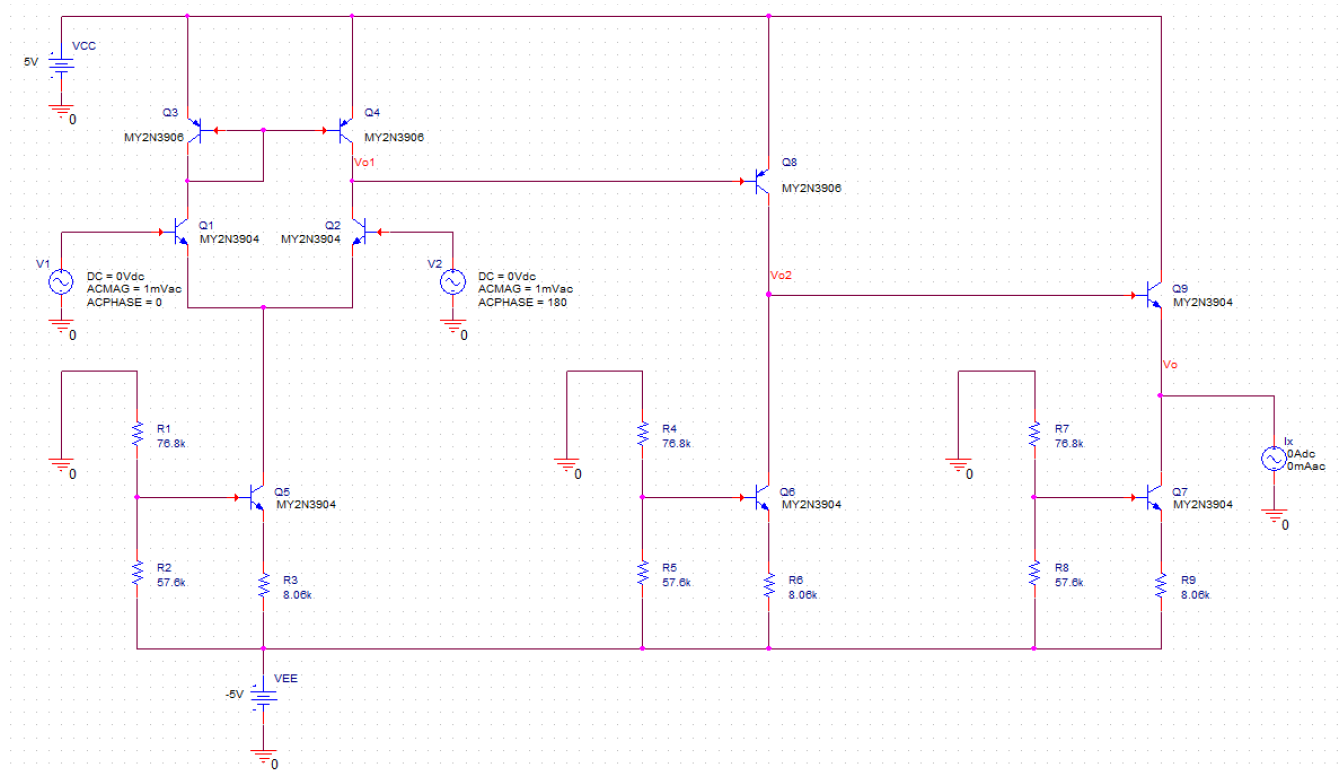

Fig. 1 Schematic diagram of the directly coupled (DC), multi-stage operational amplifier
- 1.1 In PSpice, construct the Op-Amp, as shown in Fig. 1, using the common-emitter (CE) amplifier from Lab 2, the common-collector (CC) amplifier, and the differential amplifier with a current mirror load from Lab 3. Here, I_x is a current test source used to characterize the output resistance of the Op-Amp.
- 1.2 **Voltage Gain:** Set the DC values of V_1 and $V_2 = 0$ V and their AC amplitude 1 mV. Set the DC and AC values of the test current source I_x to zero. For the differential mode signal, set the phases of the AC signal V_1 and V_2 to be 0° and 180° , respectively, as shown in Fig. 1. In this setting, the differential-mode signal $v_{id} = V_1 - V_2 = 1$ mV $- (-1$ mV) = 2 mV. Conduct AC analysis to obtain the base current i_{b1} of Q1, the voltages V_{o1} , V_{o2} , and V_o at the base of Q8, the base of Q9, and the emitter of Q9, respectively. Set the AC sweep type in Logarithmic with Start Frequency = 100 Hz, End Frequency = 100 kHz, and Points/Decade = 101. Record the simulated magnitude and phase of i_{b1} , V_{o1} , V_{o2} , and V_o in the sheet “Step 1.2” of the Excel file “Lab 4 – Feedback Circuit.xlsx”.
- 1.9 Based on Fig. 1, construct the measurement setup for an operational amplifier using the common-emitter (CE) amplifier from Lab 2 and the common-collector (CC) and differential amplifiers from Lab 3.
- 1.11 **DC Offset Voltage:** Based on Fig. 1, connect Waveform Generator Channel 1 (W1) to the input V_1 (the base of Q_1), Waveform Generator Channel 2 (W2) and Scope Ch. 1 Positive (1+) to the input V_2 (the base of Q_2), and Scope Ch. 2 Positive (2+) to V_o (the emitter of Q_9). In WaveForms, click Workspace, open the provided workspace script “Lab4_Step1.11.dwf3work” and press Run. This script will set the offset voltage of Wavegen 1 (W1) to 0 V and gradually change the offset voltage of Wavegen 2 (W2) until the output voltage of the Op-Amp switches around 0 V. Record the measured offset voltage for V^+ (or Q_2) in the sheet “Step 1.11” of the Excel file “Lab 4 – Feedback Circuit.xlsx”.